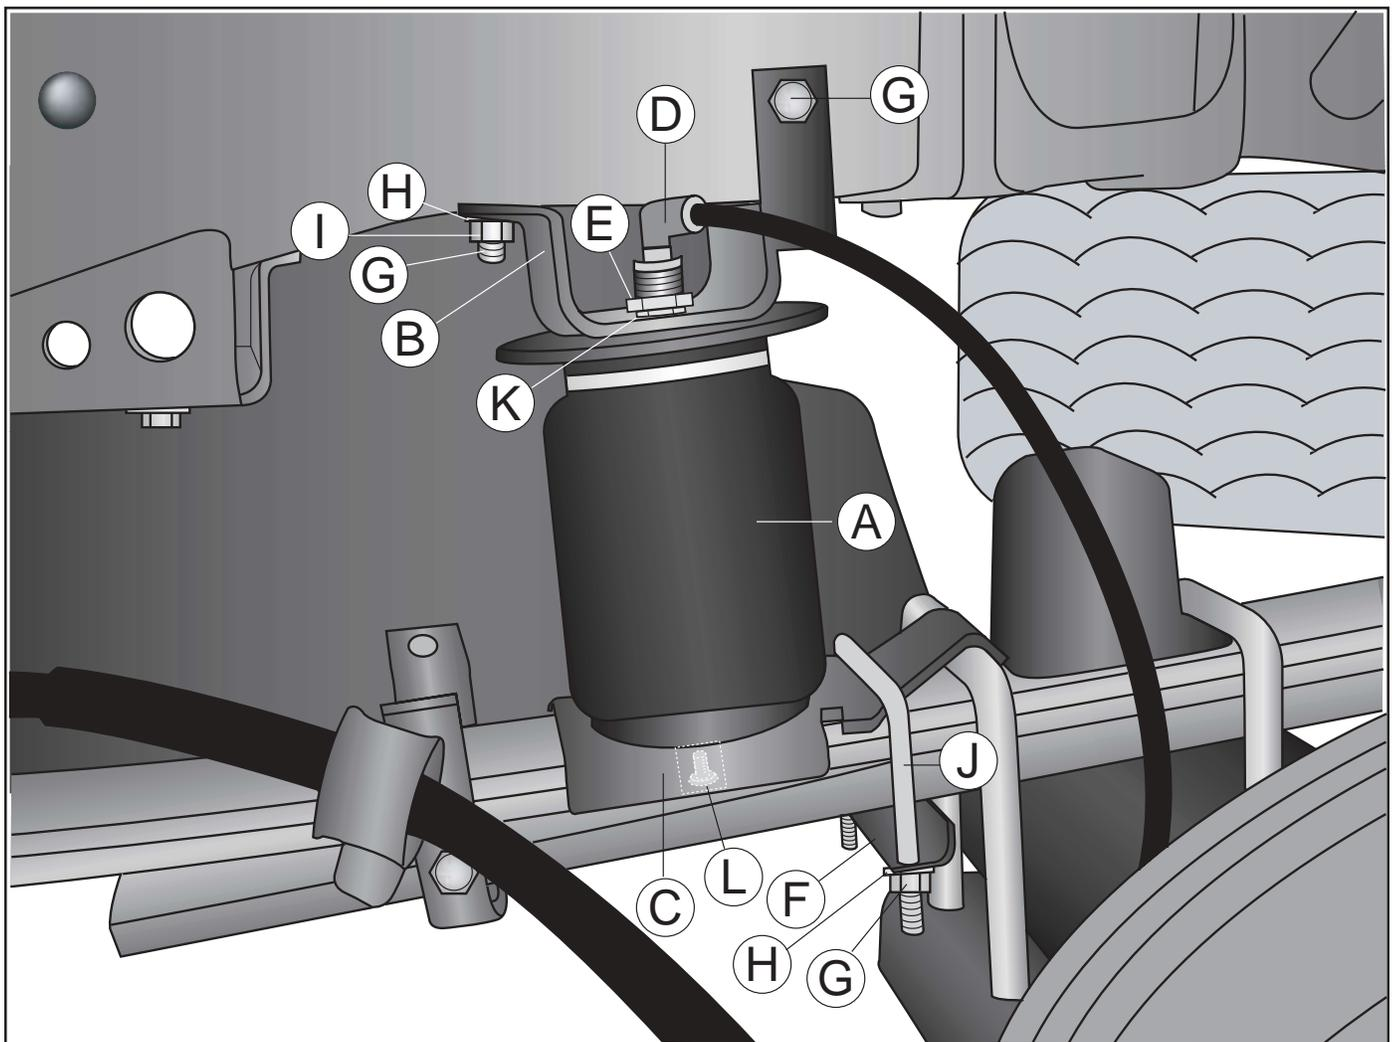

Figure 1
1. Attach the upper bracket to the sleeve using the serrated washer and nylon nut (Figure 1). Leave loose at this time.
3. Slide a clamp bar over the u-bolt installed in step 2 and attach using two flat washers and two nyloc nuts (Figure 1). Torque to 16 ft. lbs.